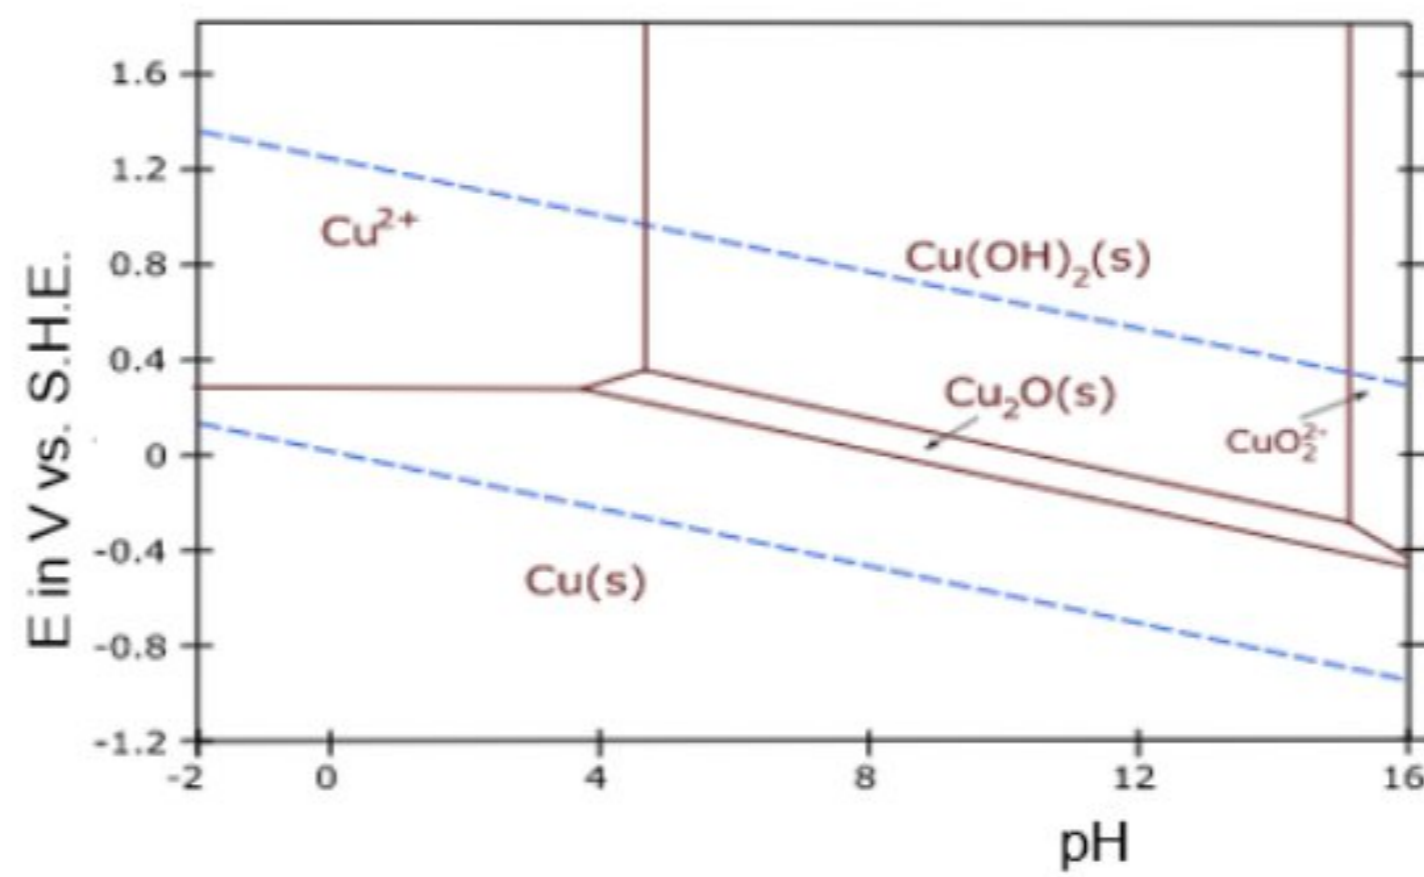

Figure Q4a.
Q.4 (a) Figure Q4a. is a Pourbaix diagram for copper. Explain what the different regions in the diagram represent.